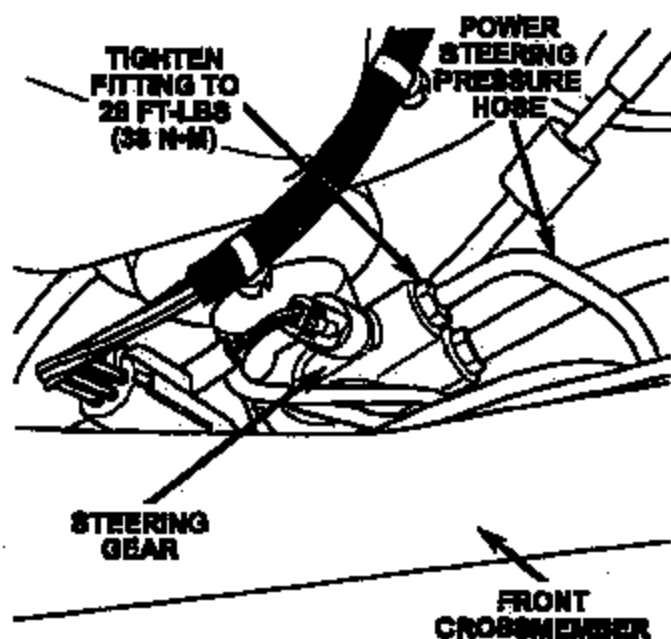

Figure 8
11. Disconnect the power steering pressure hose from the steering gear and drain the fluid (Figure 8).
24. Loosely connect the power steering hose to the steering gear (Figure 8).
26. While keeping the hose in position, tighten the power steering hose-to-steering gear connection to 28 ft-lbs (38 N·m) (Figure 8).